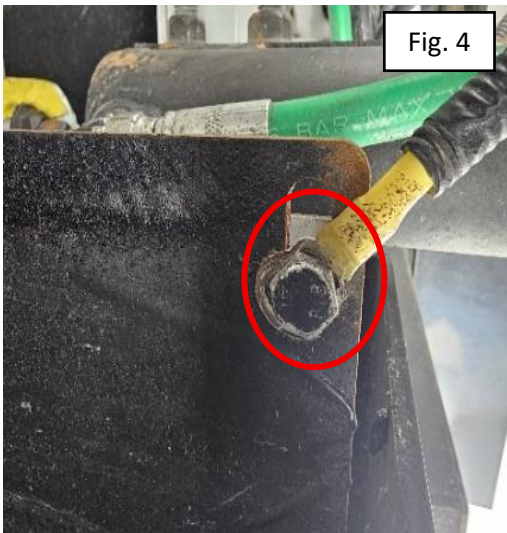

Fig. 4
- a. **Note: When adding the ground to the chassis frame ground stud, ensure there is a star washer on the stud and if not add one.** (Figure 4)